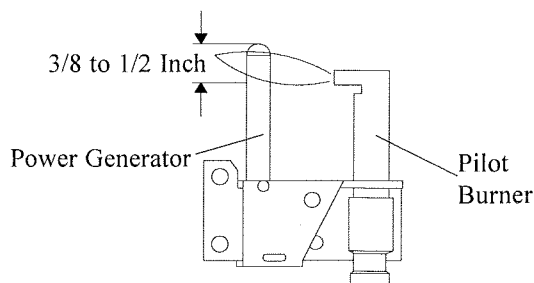

FIGURE 6. PILOT BURNER ADJUSTMENT
- Adjust pilot key to provide properly sized flame. See Figure 6 for properly sized flame.
- Doors may be adjusted front to back by simply turning screw, located on top door mount (see Figure 6 blow-up) until door is adjusted into desired position.